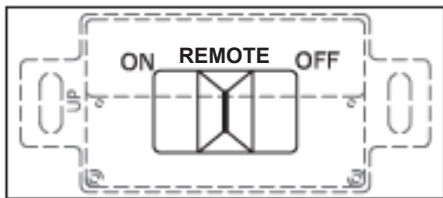

Figure 26B - Control Switch in Remote Position
10. Locate Control Switch, either inside the unit (see *Specifications / Product Identification* on page 4), or mounted in adjacent wall. Move the Control Switch to the REMOTE position (see Figure 26B). Make sure steps 1 through 5 on page 12 have been followed, to ensure the remote transmitter and receiver have been paired (See *CONTROL SWITCH/BATTERY BOX AND REMOTE HANDSET - Battery Installation and Programming* Page 12).